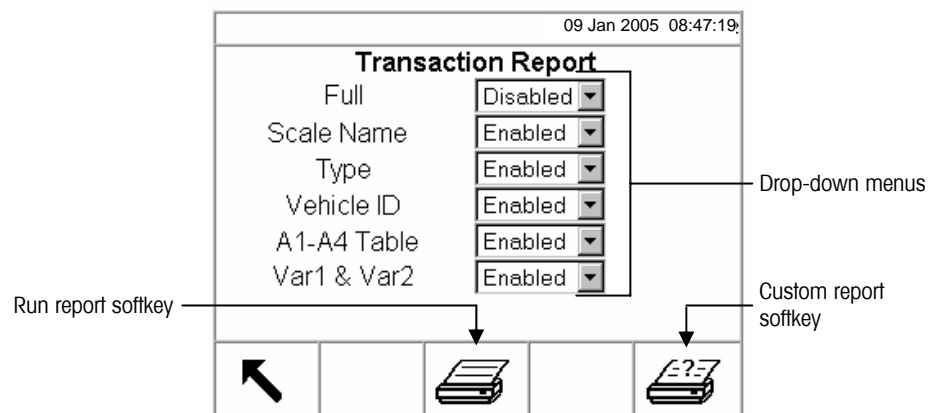

Figure 2-18: Report Setup Screen (Transaction Report)
3. Press the RUN REPORT softkey. The Report Setup Screen for the selected report type displays (see Figure 2-18).
4. Press the ENTER key to open the setup screen for the selected table report. The Report Setup Screen for the selected report type displays (see Figure 2-18).